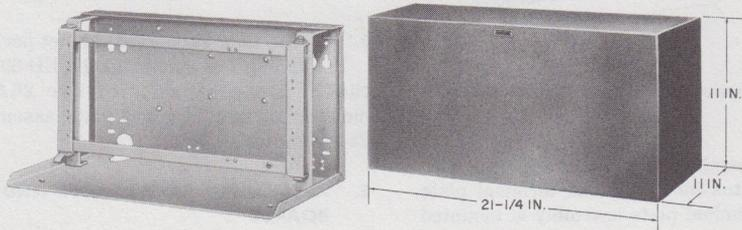

Fig. 10—4-Plate Cabinet per ED-91472-70 (MD)
2.11 The 4-plate equipment cabinet (MD) per ED-91472-70* (Fig. 10) is a metal cabinet with a hinged steel gate and removable metal cover. The cabinet is drilled for wall or floorstand mounting.